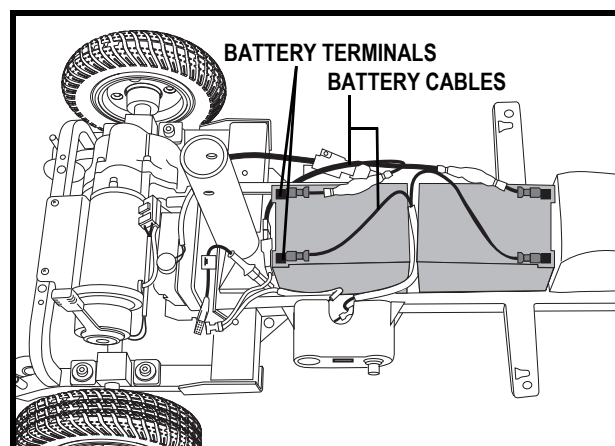

Figure 17. Battery Terminal Connections
7. Disconnect the red (+) positive and black (-) negative battery cables from the batteries by pulling them straight away from the battery terminals. See **figure 17**.